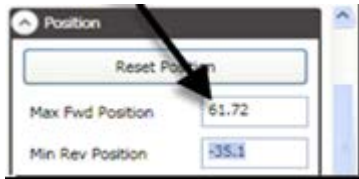

Figure 73
5. Type the **Position** value into **Max Fwd Position** field (Figure 73).